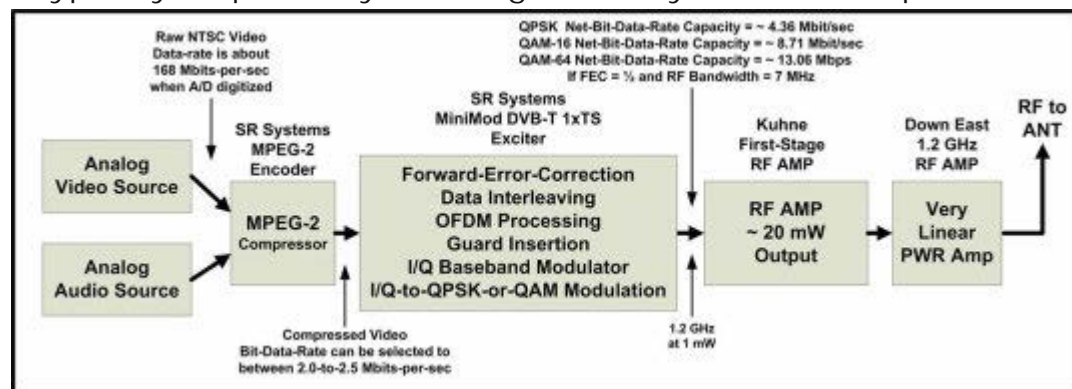

Figure 2 – Block Diagram of Typical DVB-T Transmitter for DATV)
Groups and clubs of DATV enthusiasts have shown that DVB-T digital technology is possible for hams. Fig 2 is a block diagram of a basic DVB-T transmitter used by several groups in Europe and Australia for DATV. The analog camera and video is compressed by a MPEG-2 encoder board. The TransportStream (TS) digital data is fed to the exciter board that does a lot of complicated data processing and then converts the digital data directly to modulated RF at a desired frequency. The small RF output signal of the exciter board is typically amplified by two stages of very linear RF amplifiers.
For DATV, the analog camera output is first digitized by the MPEG-2 Encoder board shown in Fig 2, and then compressed by the MPEG-2 algorithm. The reason the compressed video data rate varies in Table 1 is that the small value means little